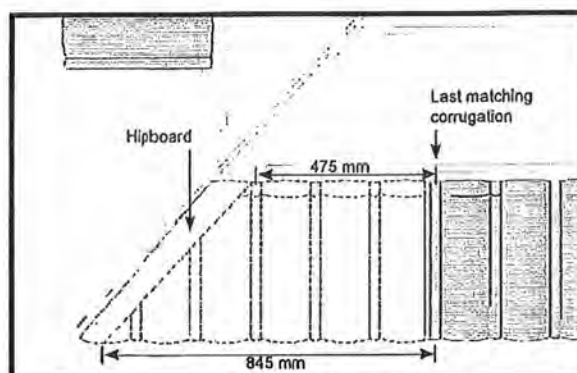
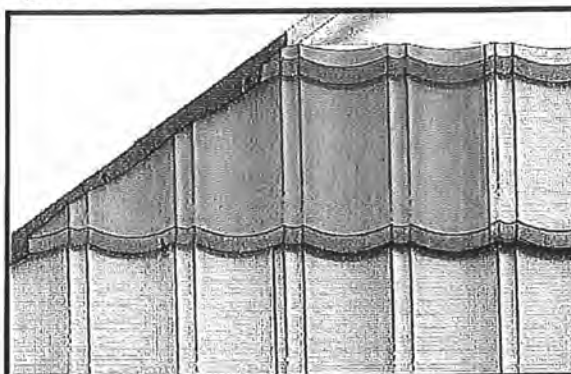

Figure 1.7
Figure 1.9
To save time marking, cutting and bending each tile, it is best done by two installers - one to measure and the other to write the measurements down on a board or piece of paper as shown (Fig 1.7). To avoid confusion, cut, bend and stack tiles in strict order.
- (i) The basic measurement (recorded on paper or board) is taken from the last corrugation on the bottom corner of the last full tile, to the hip board, along the front edge of the batten (Fig 1.7).
- (ii) Measure and mark on the tiles with chalk or similar; the required measurements taken from the roof, ensuring the MATCHING corrugation of the overlapping tile to be cut, is taken as the measure starting point (Fig 1.7). This forms the BENDING line (Fig 1.9).
Add to the bending line measurement the height of the ridge board projection above the tile line 40mm. Mark on the tiles with chalk or similar. This forms the cutting line. (Fig. 1.9)
Each tile should supply two cut pieces leaving a minimum of wastage. Preferably a hip and valley cut from each tile will minimize this waste (Fig 1.9). However, two hip cuts will also provide a lower wastage factor.
Install all cut tiles by nailing through the turn-up into the hip board, and one or more nails through the front edge into the battens (Fig 1.9).